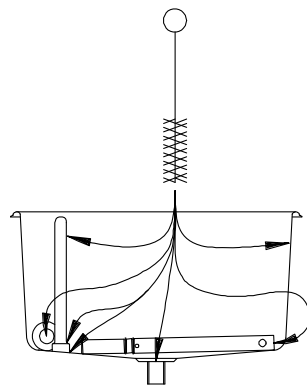

Figure 10-3 Sanitize hopper
10. Pour sanitizing solution into the hopper pan. Using a clean brush, scrub the hopper walls, mix level sensor, the mix feed port from the hopper to the cylinder, the inside of the mix feed tube and the mix float as shown in figure 10-3.